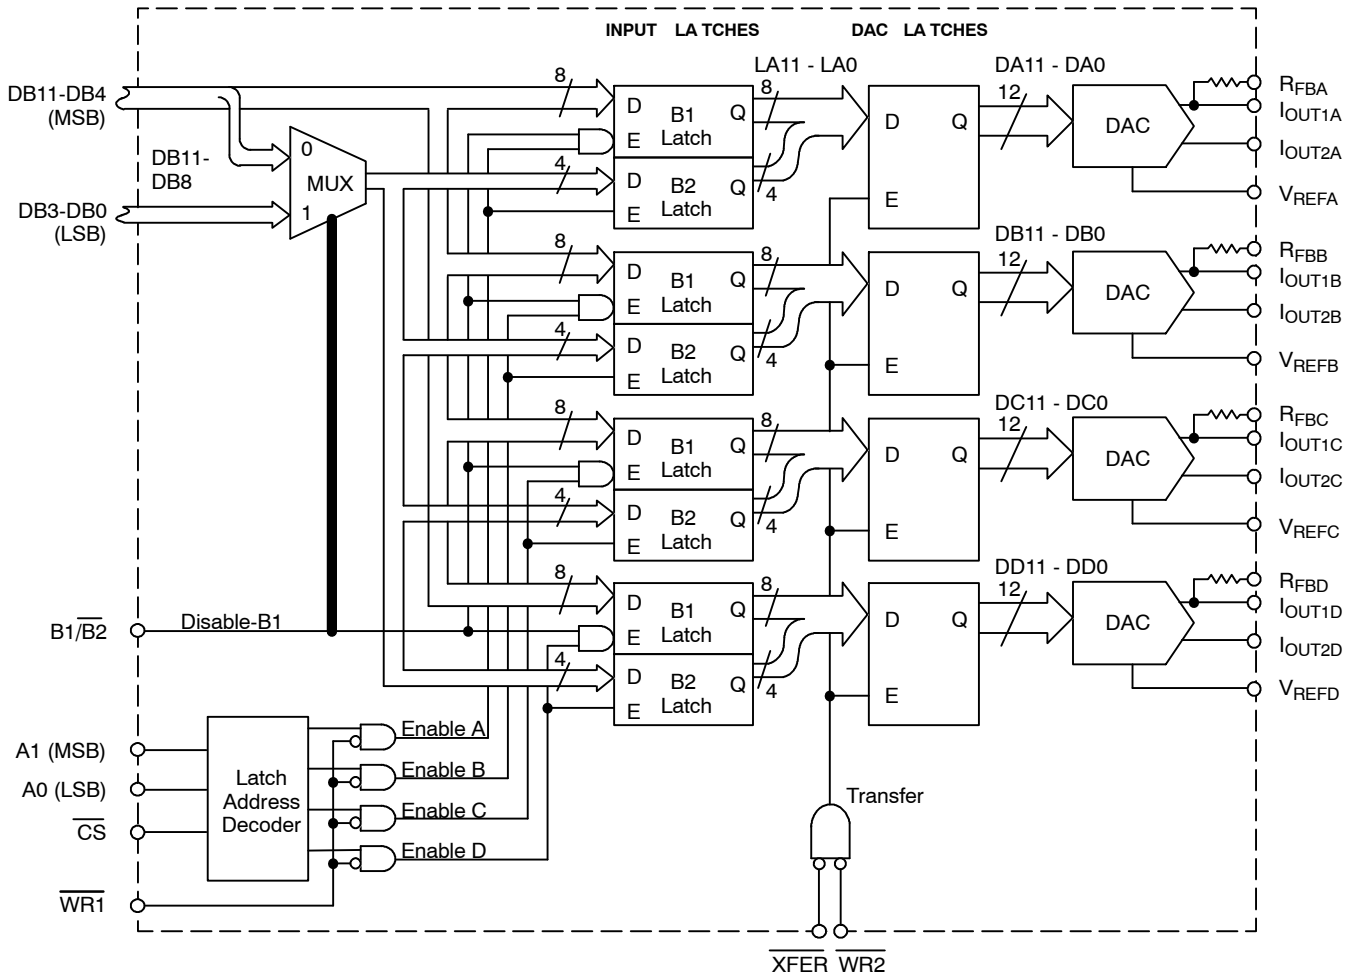
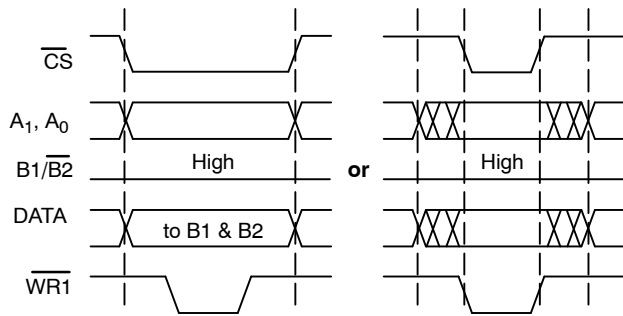
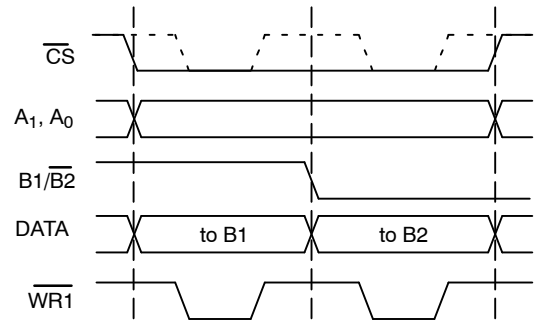

Figure 3. Latches Control Logic
Figure 4. 12 Bit Write Cycle
Figure 5. 8-Bit Double Write Cycle
Figure 3. shows the internal control logic. The logic that controls the writing of the input latches and the one that controls the DAC latches are completely separated. It is easy to understand how the MP7680/80A works by understanding each basic operation.
By keeping $B1/\overline{B2}$ = high, a 12-bit bus has direct access to the 12 bits of the input latches. The condition $\overline{CS} = \overline{WR1} = 0$ loads the values contained in the data bus DB11-DB0 into the input latch addresses by A_1, A_0 (Figure 4., Table 1.).
(Figure 5.) During the second cycle the condition B1/ $\overline{B2}$ = low muxes DB11-DB8 to the B2 latches (Figure 3.).
- 1) Timing diagrams show the inputs \overline{CS} , A₁, A₀, DB11-DB0 to be stable during the entire writing cycle. In reality all the above signals can change (Figure 4.) as long as they meet the timing conditions specified in the Electrical Characteristic Table.
- 2) Only 16-bit bus cycles are shown in the next few examples of interface timing. It is possible to generate an 8-bit interface timing by replacing a single 12-bit write cycle (Figure 4.) with a double 8-bit write cycles (Figure 5.) 8-bit applications should ground inputs DB3-DB0.